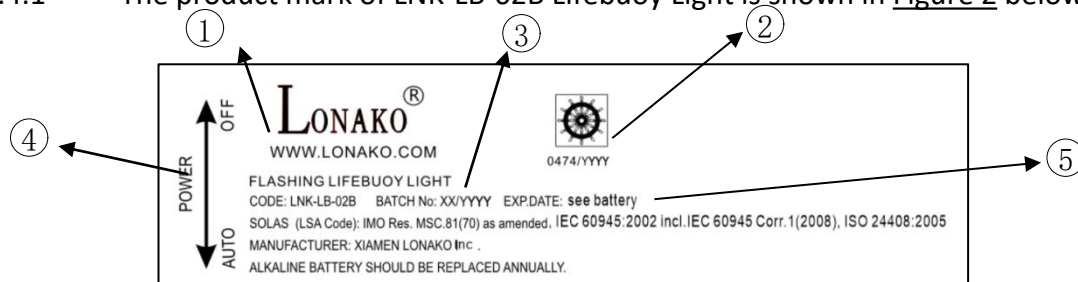

Figure 2 Product Mark
2.4.1 The product mark of LNK-LB-02B Lifebuoy Light is shown in Figure 2 below.
- 3.2.1 Twist the light and turn the POWER switch to the "AUTO" position as Figure 2 shows.